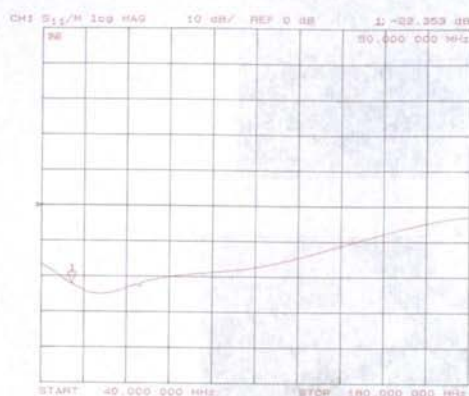

Fig. 15: Output VSWR
c) If you have a "network analyzer" or any type like mini VNA you can measure the output matching of the amplifier (this method is also used for tube amplifiers). Put a 5.6 ohm resistor and a 180 pF capacitor between the two drain pads and the output match (S11) is about -20 dB (see the curve in fig. 15.)